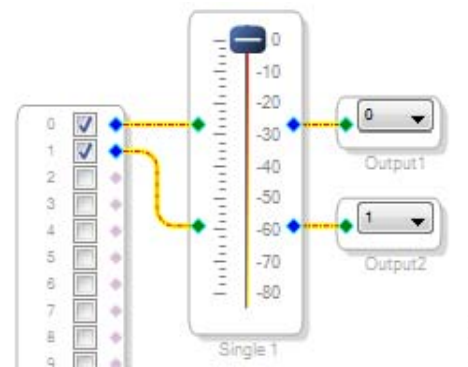

Figure 27. Completed Signal Flow with Volume Control
- Connect the blocks as shown in Figure 27.